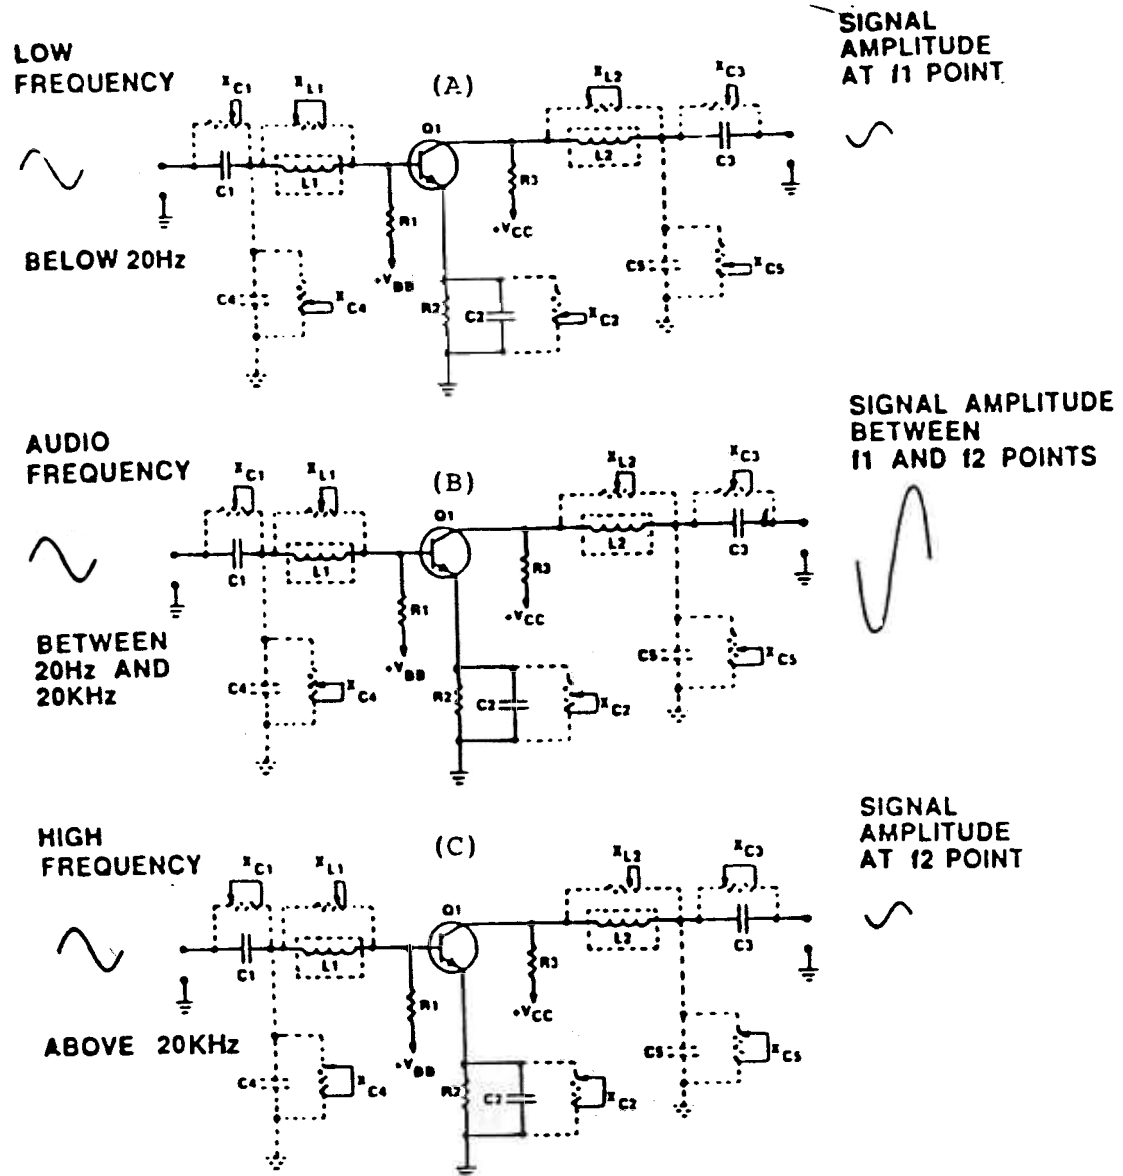

figure 19
circuit wiring. To illustrate this point figure 19 shows audio amplifier circuits with the capacitance and inductance of the wiring represented as "phantom" capacitors and inductors. The reactances of the capacitors (XC) and the inductors (XL) are shown as "phantom" variable resistors. View (A) shows the circuit with a very low frequency, (less than 20 Hz), input signal, view (B) shows the circuit with an audio frequency input signal, and view (C) shows the circuit with a high frequency, (above the audio range), input signal.